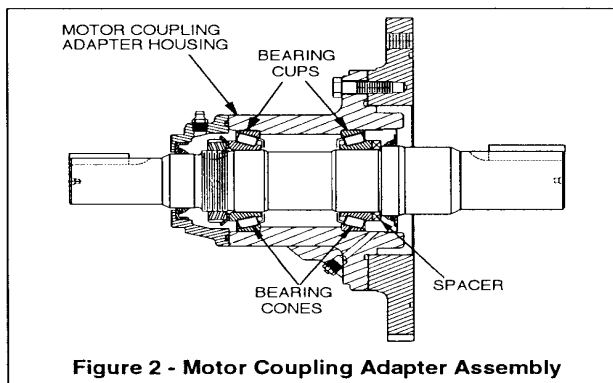

Figure 2 - Motor Coupling Adapter Assembly
1. Bearing cups must be installed prior to reassembly. When replacing the bearing, the entire two-piece bearing assembly, including the bearing cup and bearing cone, must be replaced, See Figure 2 for reference.